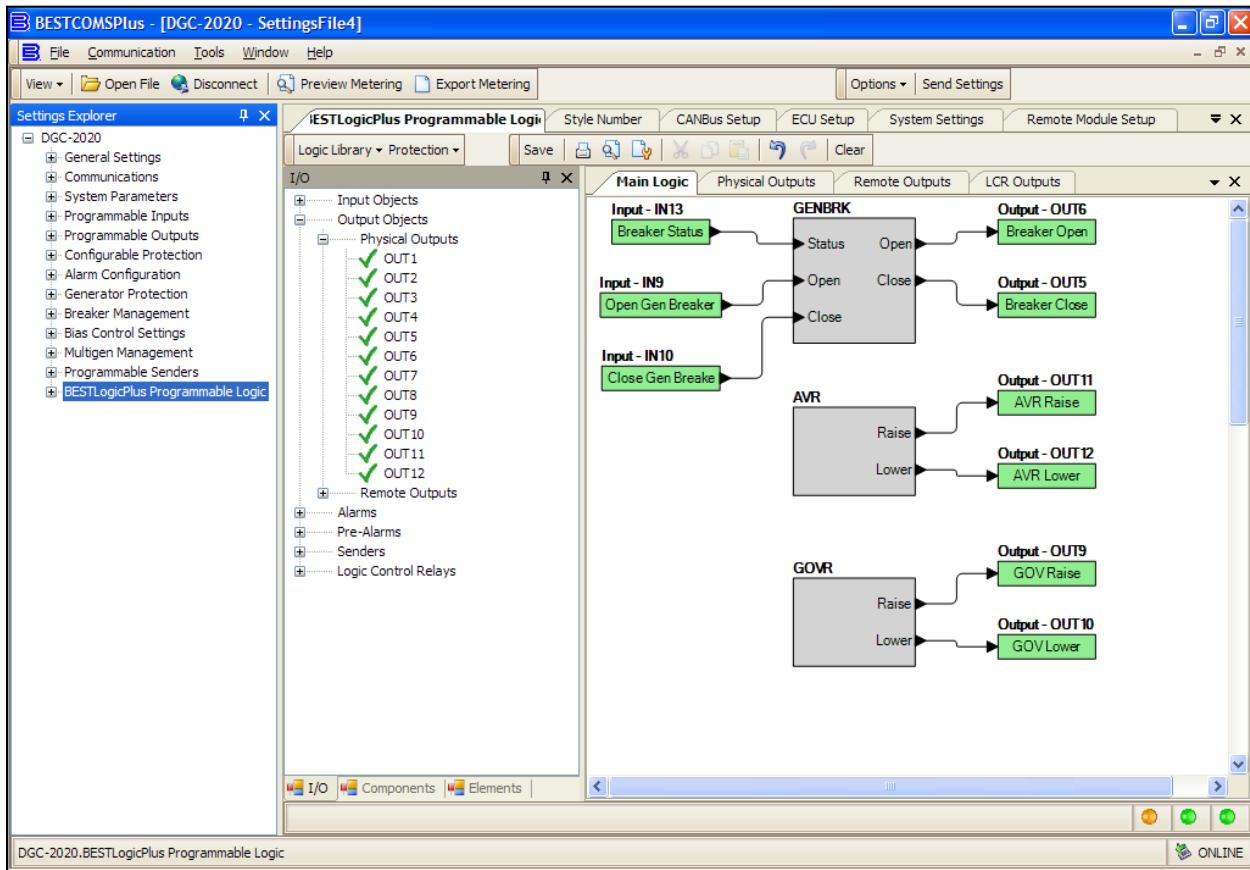

Figure 6-71. Settings Explorer, BESTLogicPlus Programmable Logic (Step 15)
15. Next, click on the *I/O* tab and drag the selected output contacts into the main logic. Connect the Governor and AVR blocks to the appropriate outputs. This concludes implementation of the automatic synchronizer. See Figure 6-71.